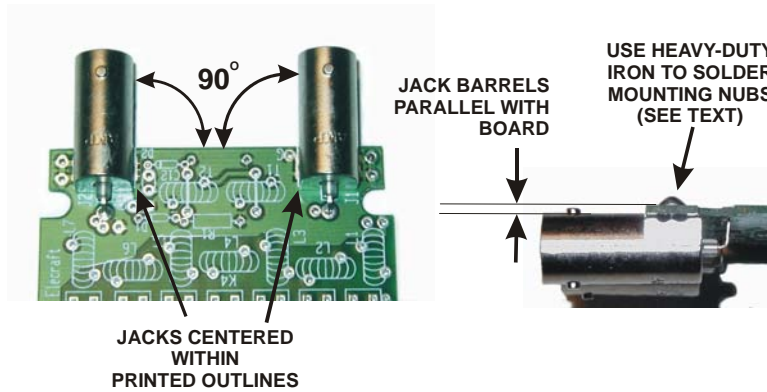

Figure 3. Installing J1 and J2.
□ Install BNC connectors J1 and J2 as follows. When completed they must be aligned as shown in Figure 3.
___ Position BNC connector J1 on the board over the printed outline as shown with the mounting nubs and center connector passing through the holes provided. Be certain the barrel is at a 90-degree angle with the edge of the board and parallel to the board as shown in Figure 3.
___ Check to ensure the connector is still aligned as shown in Figure 3. If not, re-heat the tack soldered joint and adjust the position. It will be very difficult to adjust the connector after you complete the next step.